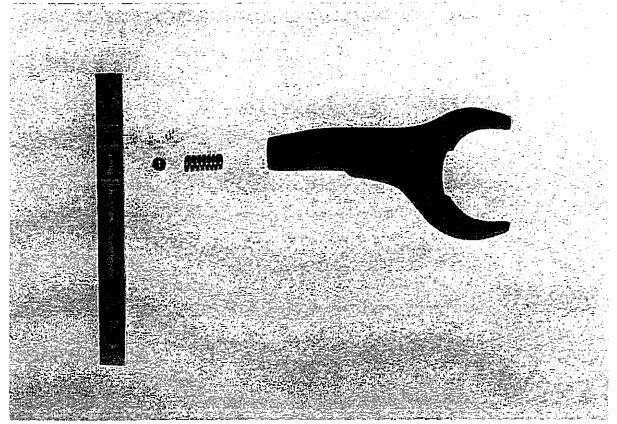

Fig. 44
- (3) Remove shifter arm from shifter rod. Remove lock ball and lock spring from shifter arm. (Fig. 44)